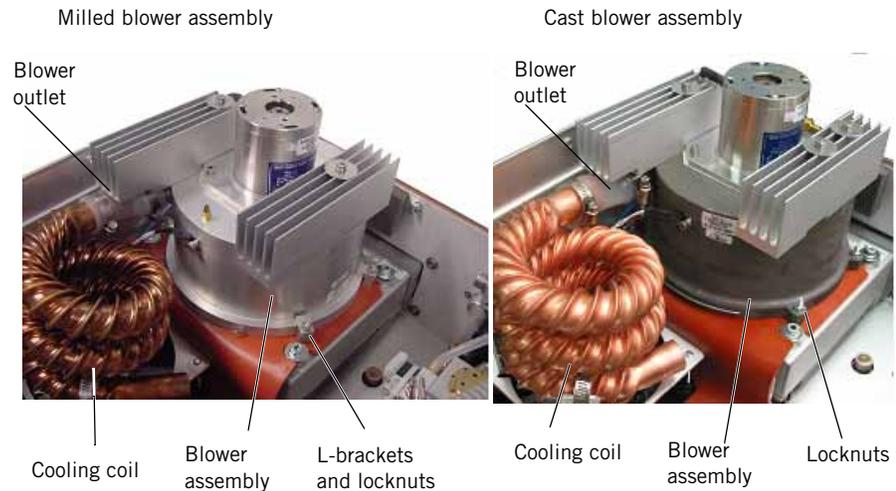

Figure 10-56: Blower Assembly (Milled and Cast)
7. Disconnect the silicone tube from the top of the cooling coil (Figure 10-56).
7. Connect the silicone tube from the top of the cooling coil to the blower (Figure 10-56). Secure the tube with the hose clamp.
10. Connect the small silicone pilot air supply tube from the crossover solenoid to the brass barb at the top of the blower (Figure 10-56).
9. Connect the small silicone tube from the blower to the crossover solenoid (Figure 10-56).